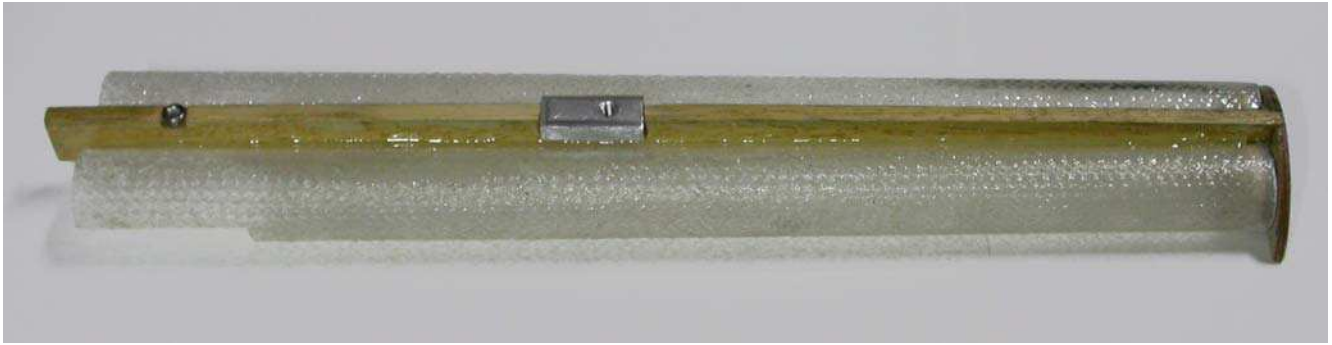

Fig.79: Resin all the structure.
- spread some epoxy along the structure (avoiding to let the epoxy penetrate in the threaded holes) and let it dry (see figure 79);